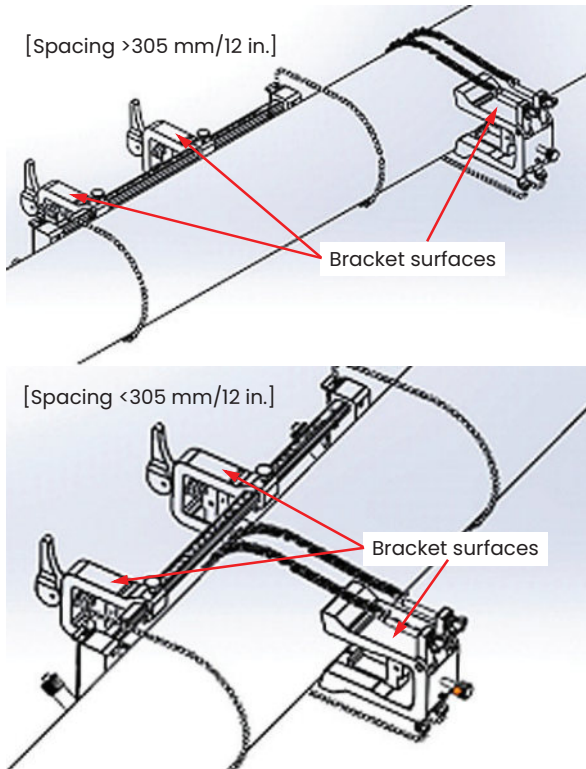

Figure 28: Yoke rotated into horizontal position
4. Rotate the yoke until it is located in a horizontal position on the opposite side of the pipe from the previously installed clamping fixture, as shown in Figure 28 below.
5. Ensure that the top surfaces of the yoke bracket and the clamping fixture brackets lie precisely in the same horizontal plane (see Figure 28 above). Place the fixed clamp in the clamping fixture at zero on the scale.